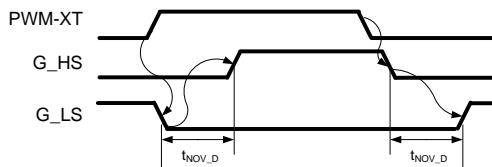

Figure 21: Local Mode operation
- Local Mode: PWM-XB and PWM-XT are generated from one input signal (PWM-XT) and proper non overlapping timing is managed locally on each phase of CXT-PLA3SA12340A gate driver board (cfr Figure 21)